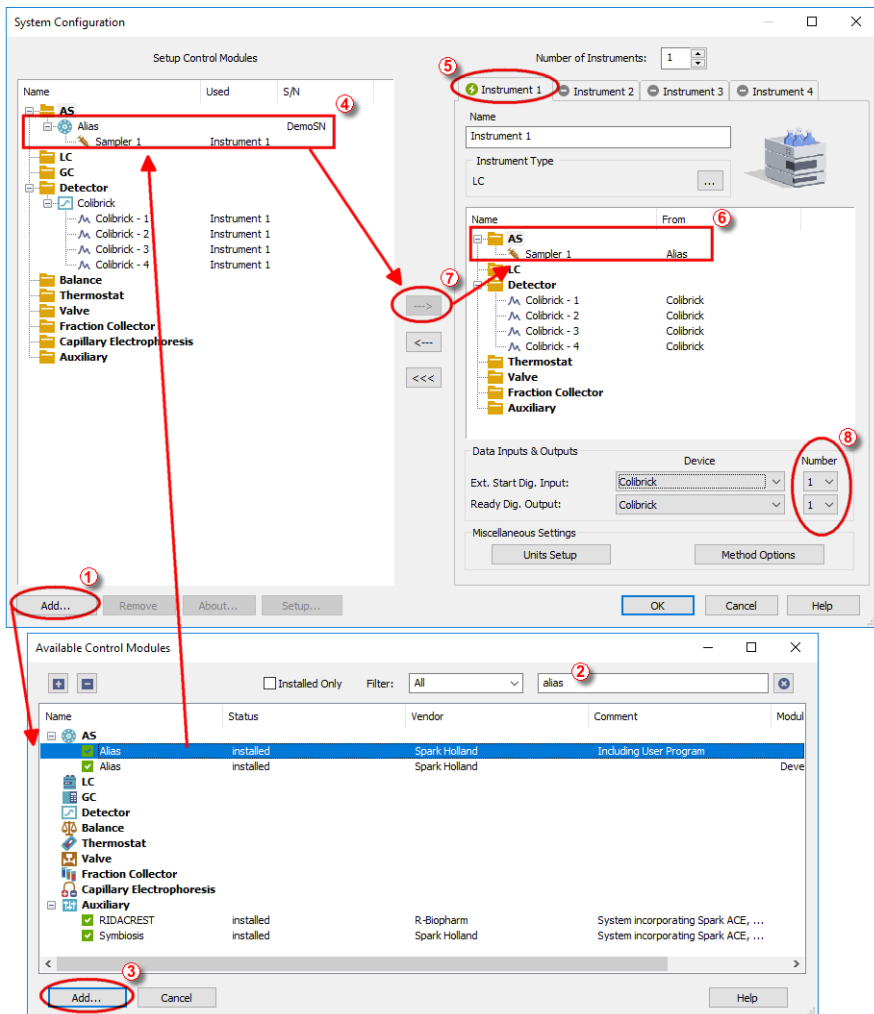

Fig 4: System Configuration
- Press the **Add** button ① (see **Fig 4** on pg 7.) to invoke the **Available Control Modules** dialog.
- You can specify the searching filter ② to simplify the finding of the driver.
- Select the **Alias** sampler and press the **Add** ③ button.